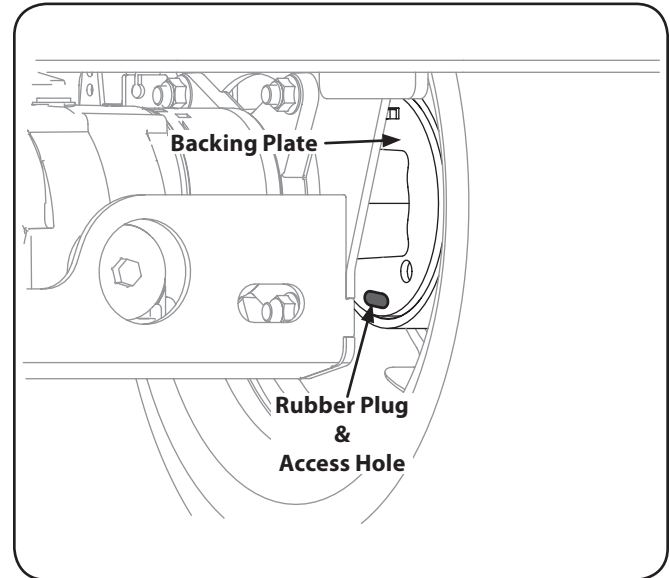

Figure 6-8
3. Wrap a rag around one end of the blade and grasp it to prevent it from turning, or secure the blade by placing a block of wood between the blade and the deck housing. See Figure 6-8.